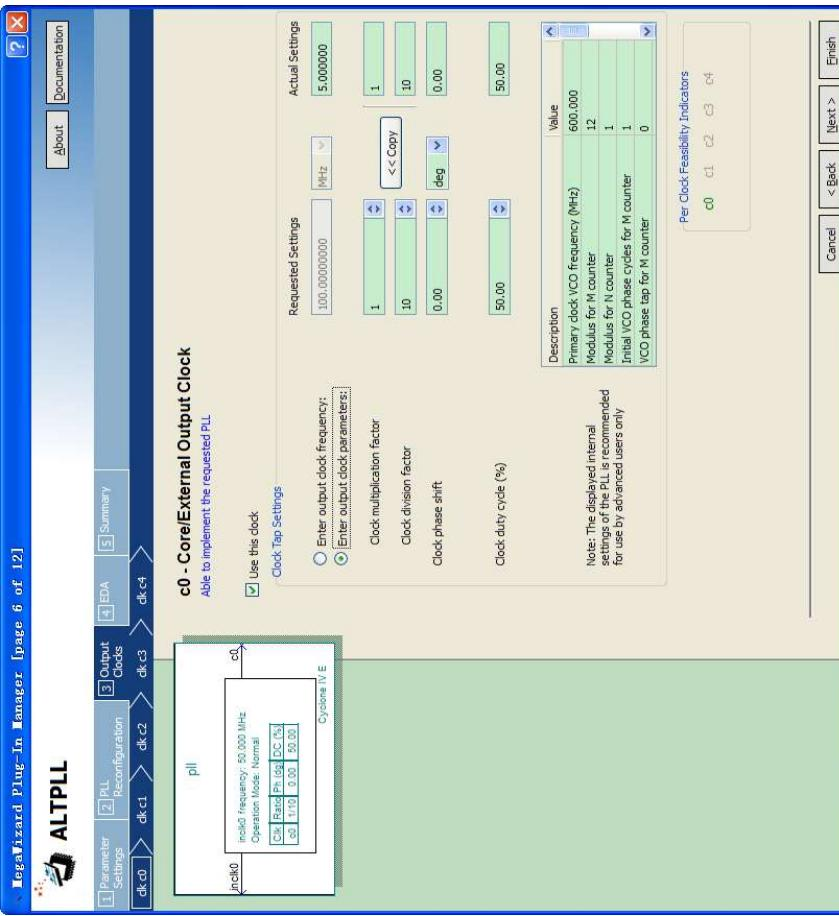

Figure 6-23 MegaWizard Plug-In Manager [page 8 of 12] Selections
- Set the Clock division factor to 10, as shown in Figure 6-23.
8. Set the Clock division factor to 10, as shown in Figure 6-23.